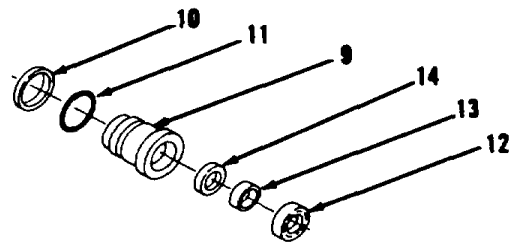

Figure 17-12.
8. Remove ring (10), preformed packing (11) and seals (12 thru 14) from head (9, Figure 17-12). Discard preformed packing (11) and seals (12 thru 14).
7. Using clean oil, lubricate new seals (14 thru 12), new preformed packing (11) and ring (10, Figure 17-12).
8. Using seal installer, install new seals (14, 13 and 12), new preformed packing (11) and ring (10) in head (9). Lip of seal (13) is toward inside of head (9). Lip of seal (12) is toward outside of head (9).